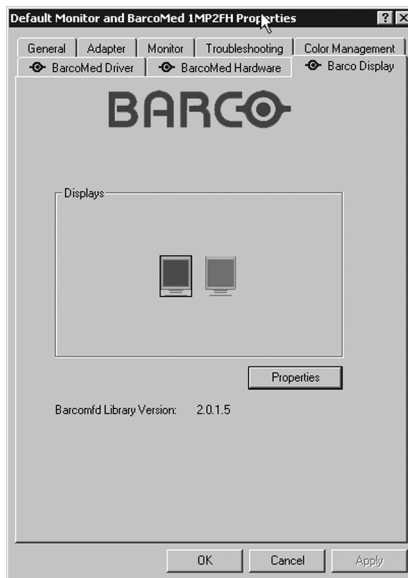

Figure 19: Barco Display Tab under Windows 2000 and Windows XP
2. Under Windows 2000 and Windows XP, click on the “**Settings**” tab. Double click on the rectangle that represents the BarcoMed Display you are working with to bring up its properties page. Click on the “**Barco Display**” tab (figure 19 below).